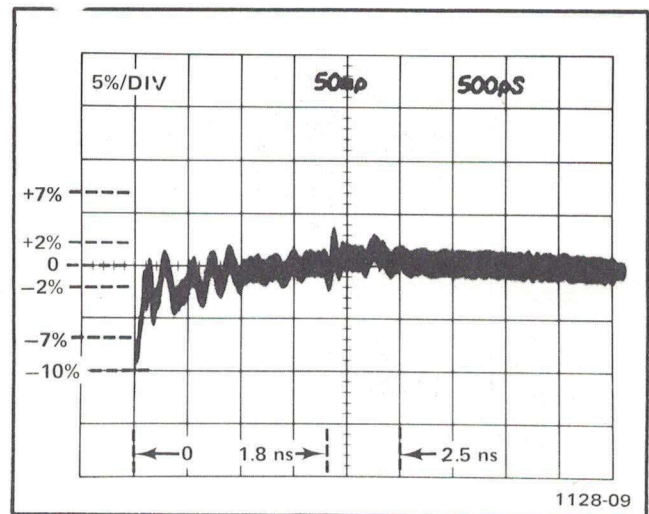

Fig. 4-2. Pulse aberrations of the S-6, S-52 and 7S12 system.
d. Set the m ρ /Div switch at 50 and place the pulse step edge near the left edge of the graticule. Adjust the DC offset control to set the top of the pulse (at the 1.8 ns point from the pulse leading edge) on the graticule centerline. See Fig. 4-2.
i. Check that the aberrations are within +2%, -2%, total of 4% after 2.5 ns of the pulse edge. See Fig. 4-2.